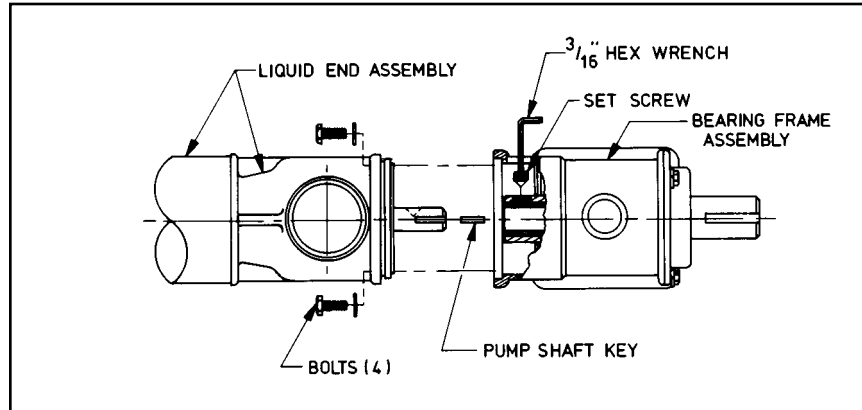
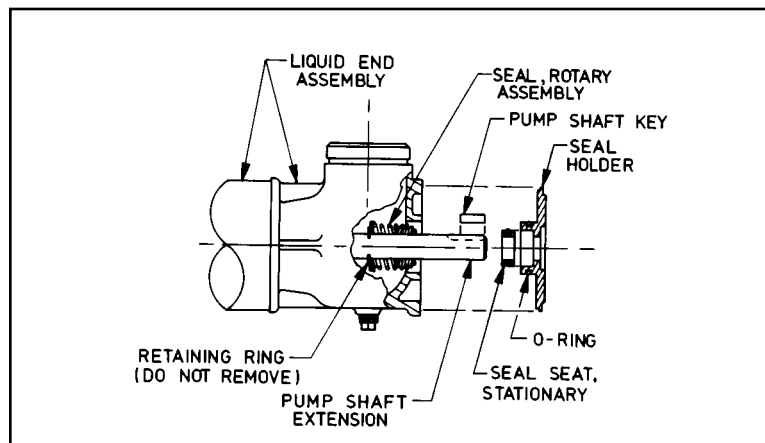

Figure 6.5
Figure 6.6
1. Insert a 3/16-inch Allen (hex) wrench in one of the access holes on either side of the bearing frame toward the liquid end (Figure 6.5, Separation of Liquid End Assembly From Bearing Frame). Rotate the pump shaft until the Allen wrench slips into the set screw. Remove the set screw.
2. Remove the four (4) 3/8-inch bolts and lock washers connecting the liquid end assembly to the liquid end adapter (Figure 6.5). Support the liquid end assembly when the bolts are loosened to prevent bending of the pump shaft.
4. Fasten together the inlet casting, mechanical seal holder, and bearing frame assembly with the four (4) 3/8-inch bolts and lock washers. Reference Figure 6.5 (Separation of Liquid End Assembly from Bearing Frame) and Figure 6.6 (Removal of Mechanical Seal) for correct placement of parts.
2. Remove the pump shaft key and slide the mechanical seal holder off the pump shaft (Figure 6.6, Removal of Mechanical Seal).
3. Remove the rotary portion (spring, washer, and face assembly) of the seal assembly from the pump shaft by rotating and pulling the rotary portion until it slides off the pump shaft. If prying is required, do not damage the pump shaft or inlet housing where the seal holder seals (Figure 6.6).
7. Remove the stationary portion of the mechanical seal from the cavity in the seal holder (Figure 6.6, Removal of Mechanical Seal).